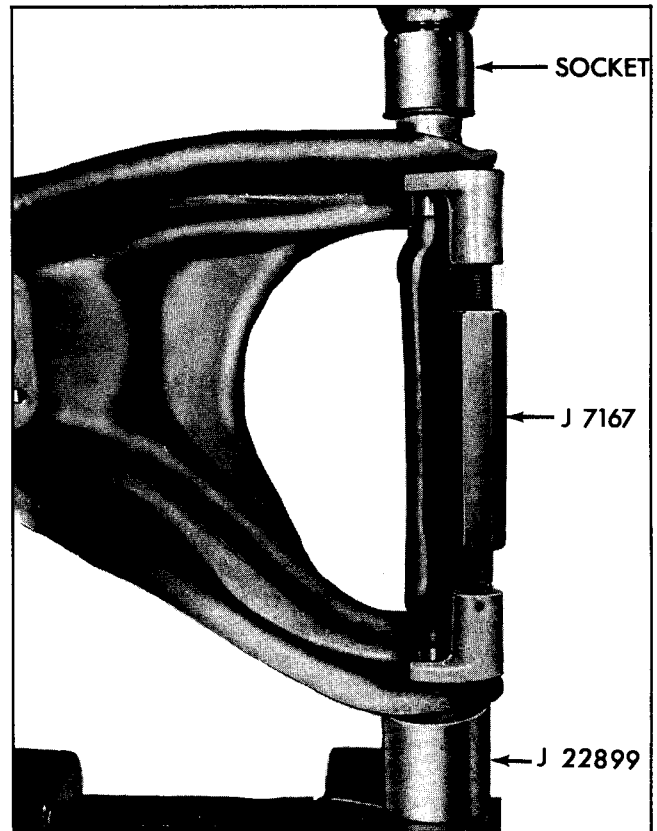

Fig. 3-25 Installing Upper Control Arm Bushing
1. Place tool J 7167 in position as shown in Fig. 3-25 and expand until tool is snug between inner faces of arm.
4. Press bushings in control arm with arbor press, using two large sockets or J 22899 for installers (Fig. 3-25).